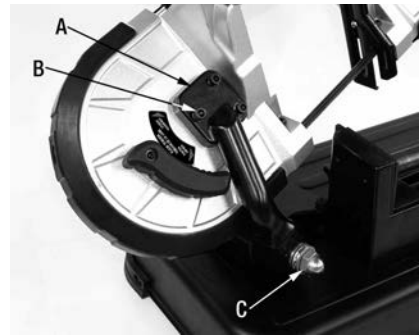

FIGURE 2
2. Mount the Bandsaw to the Miter Stand arm (A) Fig.2 with three cap screws and spring washers (B) using a hex. key.
1. If the resistance of the arm is too loose (falls) or too tight (hard to move), the tightness of the acorn nut (C) Fig.2 can be adjusted to suit your needs.